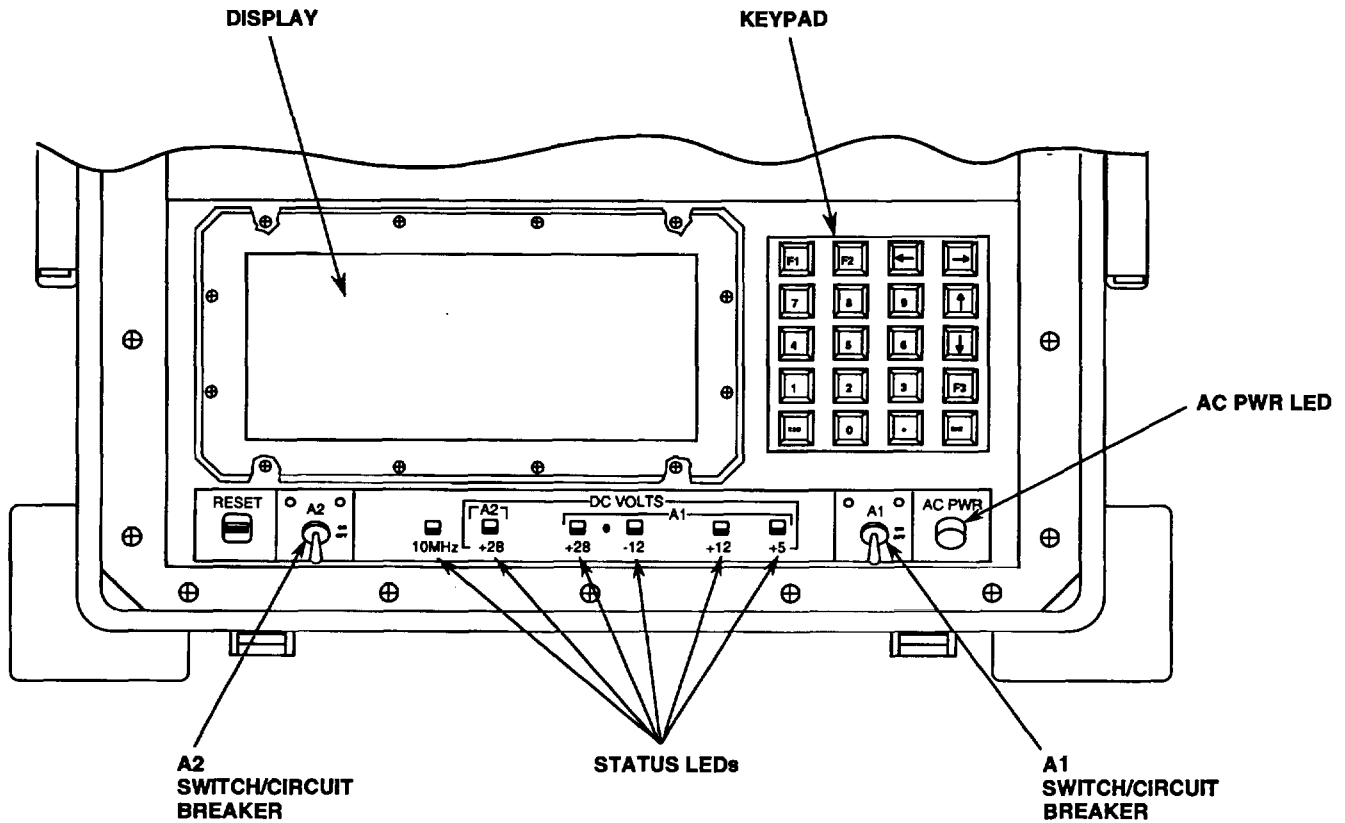
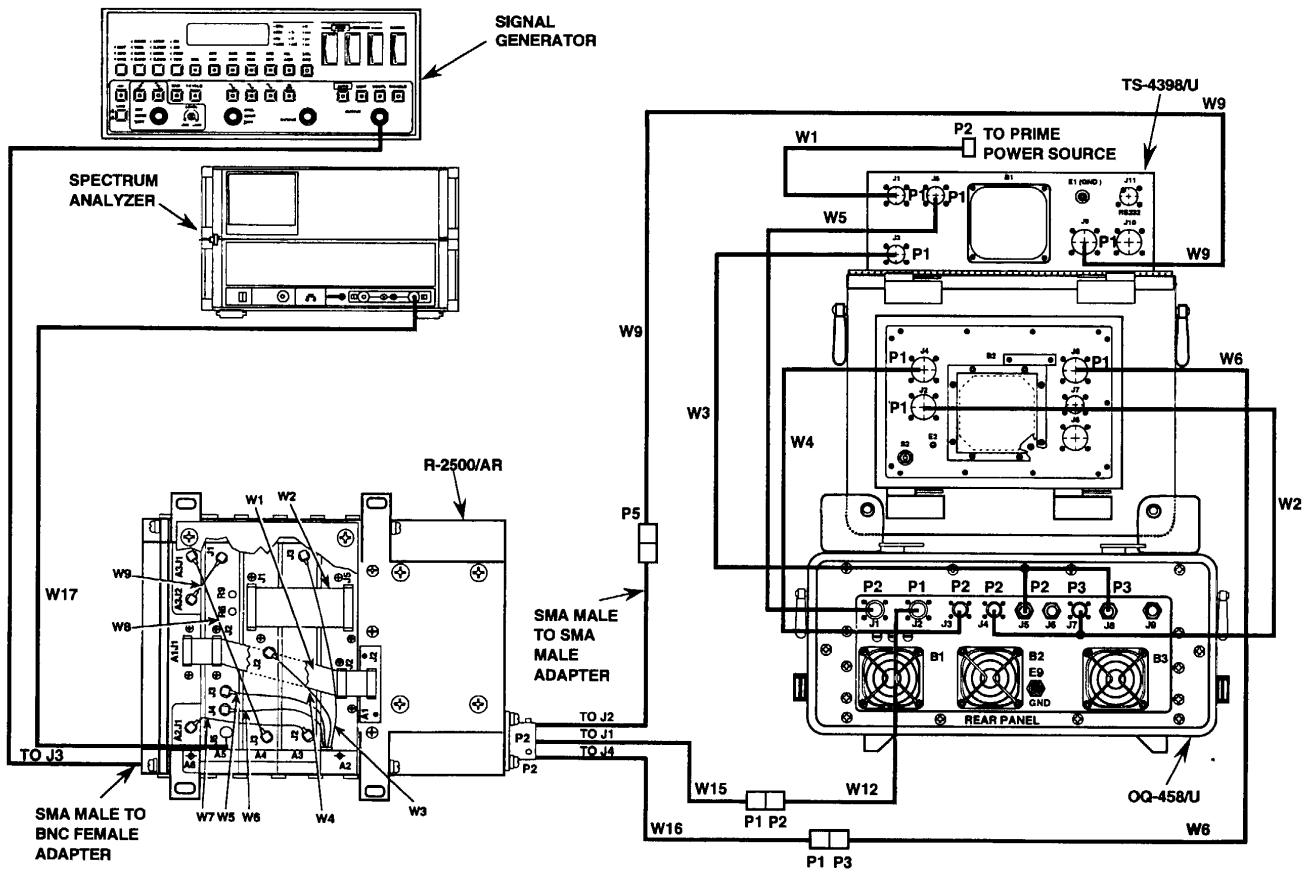
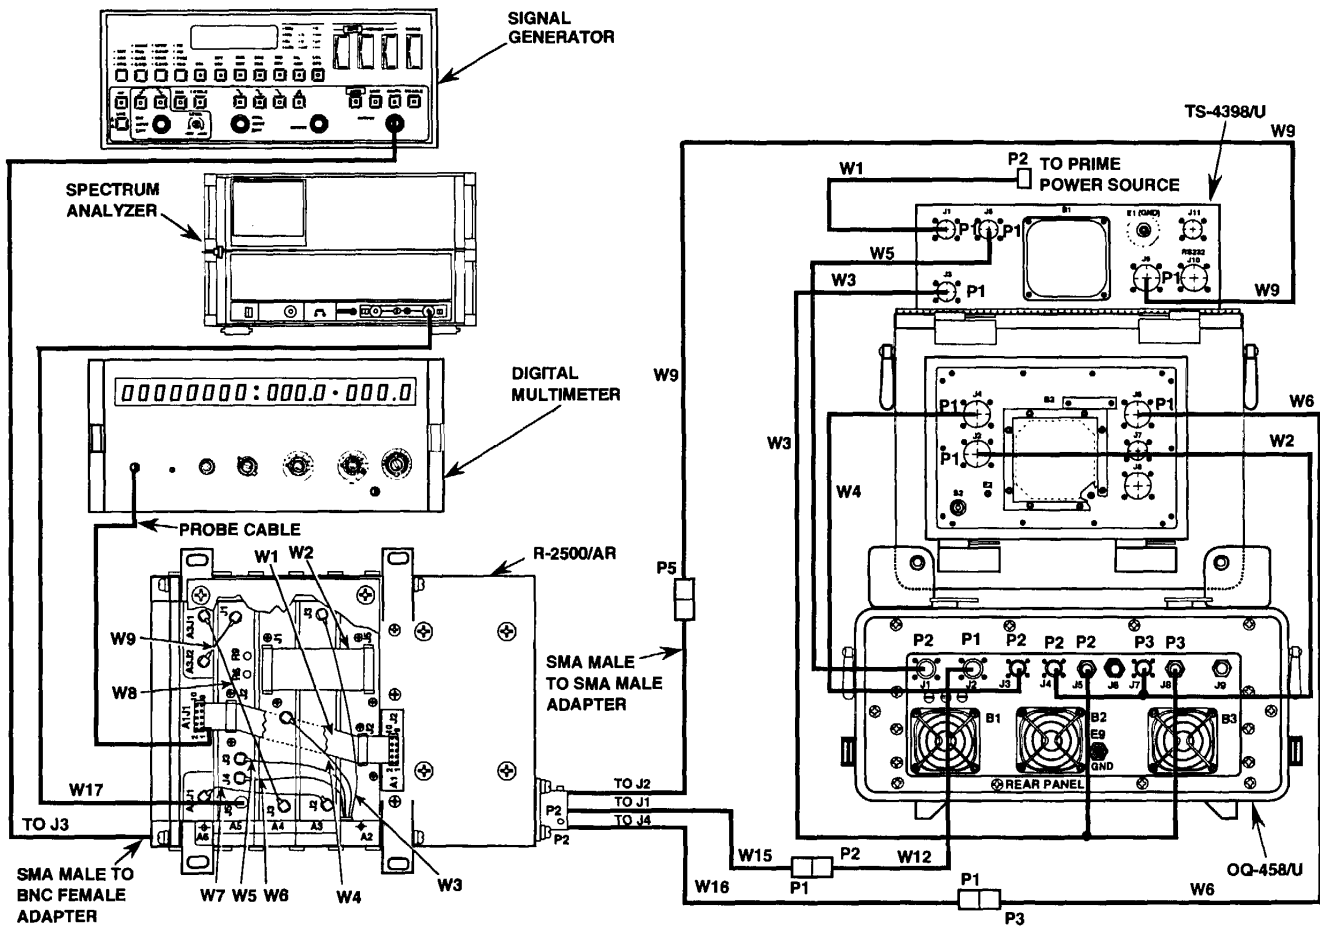

FIGURE 5-58. TS-4398/U CONTROLS AND INDICATORS.
FIGURE 5-59. R-2500/AR NO OUTPUT ON BANDS 3 AND 4 TEST INTERCONNECTIONS.
FIGURE 5-60. R-2500/AR A6A1J1 OUTPUT TEST INTERCONNECTIONS.
The interconnections for the no output on bands 3 and 4 test are shown in figures 5-59 and 5-60. The test controller TS-4398/U controls and indicators used during the test are shown in figure 5-58. Figure 5-59 shows the no output on bands 3 and 4 test interconnections. Figure 5-60 shows the A6AIJ1 output test interconnections.
6. Connect the probe cable to the input of the digital multimeter. (See figure 5-60.)